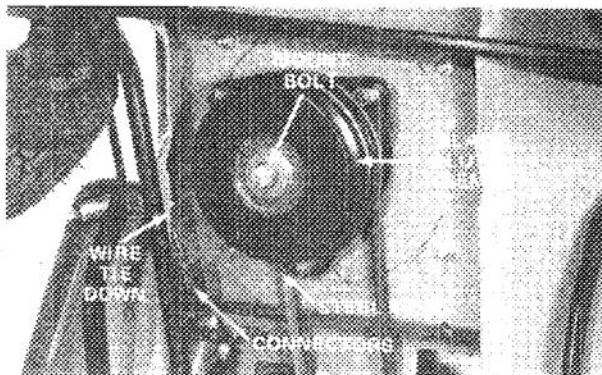

Figure 39
4. Disconnect the bolt retaining the wire tie down from the electromagnetic blade clutch. Disconnect the in-line wire connector (Fig. 39).
5. Remove the bolt securing the cutter blade clutch assembly (Fig. 39) at the front of the machine and remove the assembly. Note how the clutch is prevented from rotating by a steel post welded to the underside of the tractor.